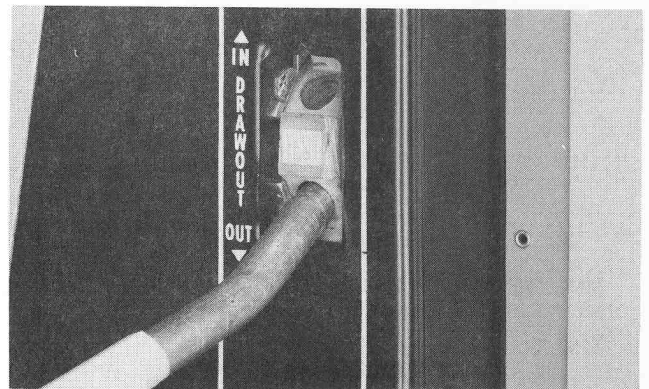
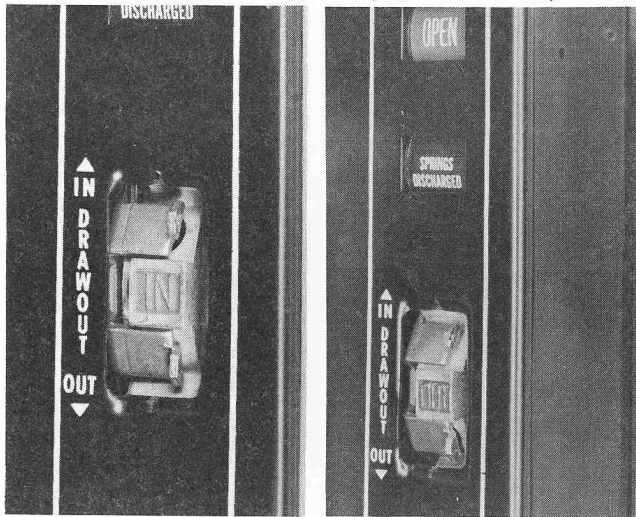

Figure 8
Figure 9 & Figure 9A
12. Push drawout interlock to left, insert drawout lever 1101-9251, (Figure 8) into the bottom hole of the drawout mechanism and, with an up-stroke, rack breaker into the TEST position. Remove drawout lever, drawout interlock plate should snap into position completely covering the holes.
15. To put circuit breaker into service push drawout interlock to left, insert drawout lever in the bottom hole of the drawout mechanism (Figure 8) and with an upward stroke rack breaker into operating position. Remove drawout lever, interlock plate should snap in position and red IN appears. (Figure 9 and 9A).